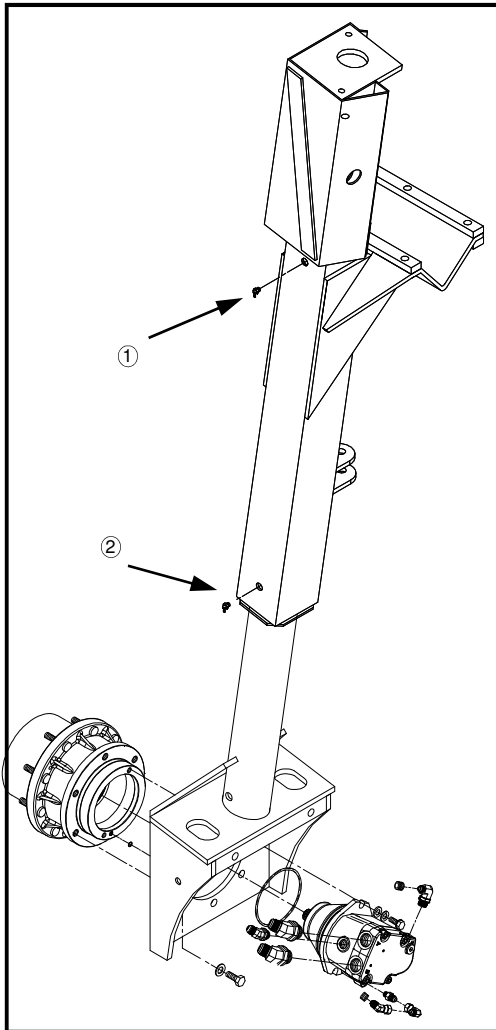

FIG 7.33
Hagie 204 leg assemblies are constructed with upper and lower nylon bearings for suspension telescoping between the inner and outer leg weldments. These bearings must be lubricated to avoid bearing failure and ensure optimal ride quality. There are grease zerks located on the sides of the leg assemblies, one for the upper bearing (fig. 7.33, item 1) and one for the lower bearing (fig. 7.33, item 2). Greasing both bearings on both front and rear legs daily is very important.